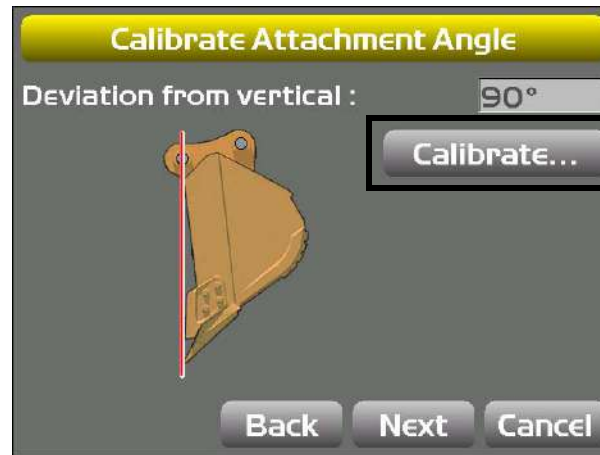

Figure 73: Calibrate Attachment Angle
- With the attachment plumb, tap **Calibrate** from the **Calibrate Attachment Angle** screen (Figure 73); tap **Next** to go to the **Calibrate Bucket Base** screen.